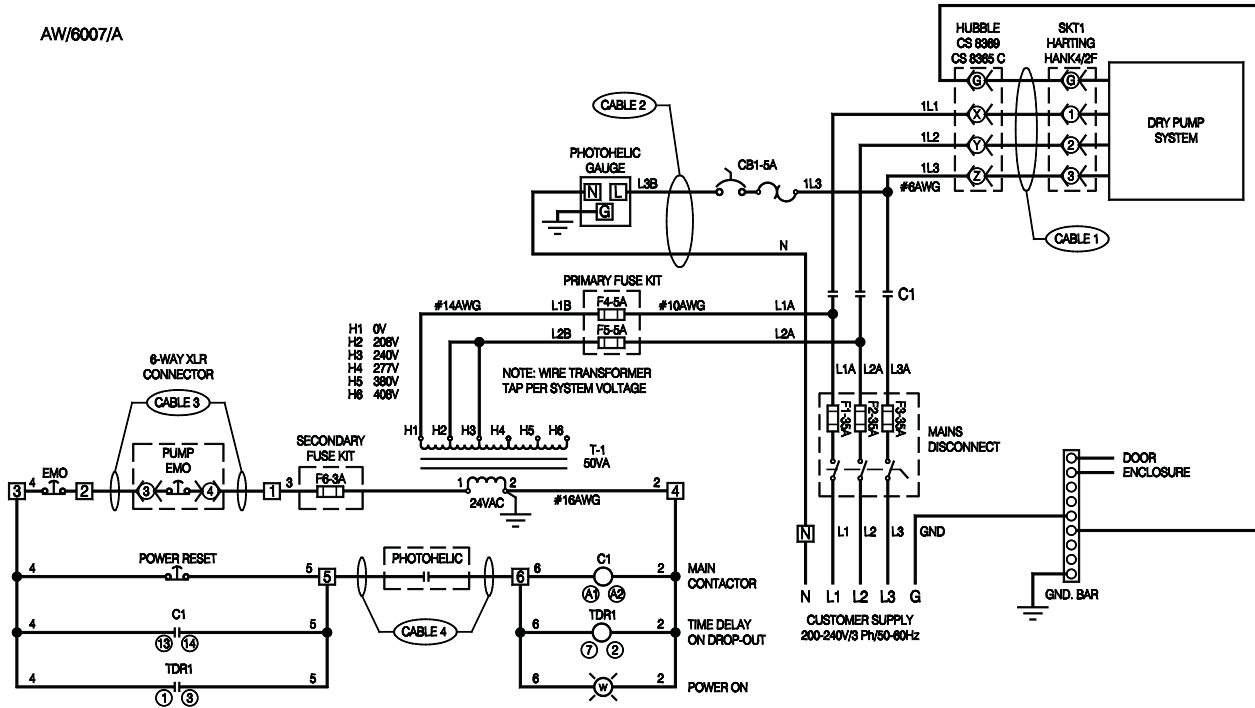

Figure 3-12 - Disconnect box electrical schematic
The electrical schematic is shown in Figure 3-12. The electrical connections between the disconnect box, incoming electrical supply and pump are described in the following sections. Refer to Figure 3-13 for electrical supply connections, and Figure 3-14 for cable connections.
2. Connect the cable cores to terminals 1 and 2 of the disconnect box. See Figures 3-12 and 3-13.
4. Connect the photohelic switch/gauge signal cable to terminals 5 and 6 (See Figures 3-12 and 3-13)
5. Connect the photohelic switch/gauge power cable to CB1, the Neutral Terminal and the Ground Bar. (See Figures 3-12 and 3-13)